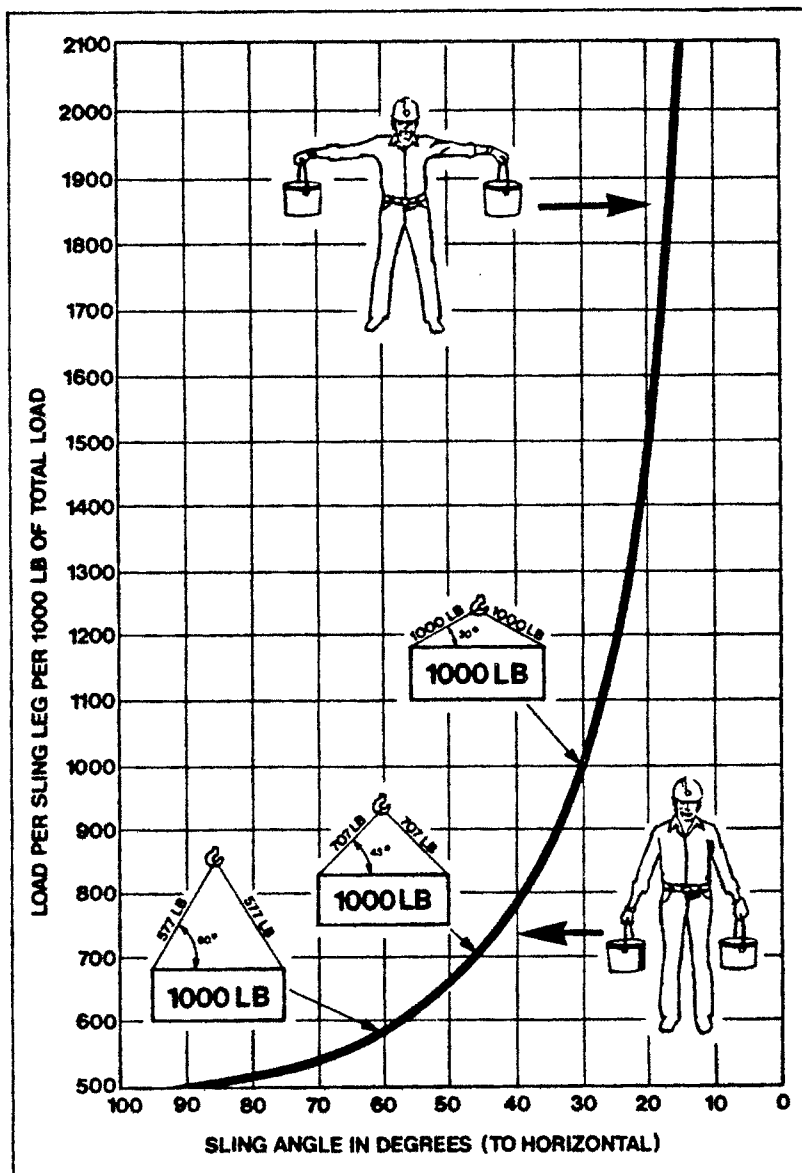

Fig. 2-4 Load increases rapidly as the angle of the sling over the load decreases
- b. Keep the angle between the legs of the sling as small as possible to avoid placing extra tension on the sling. **Figure 2-4** shows how rapidly the load on the sling increases as the angle between the legs of the sling decreases.